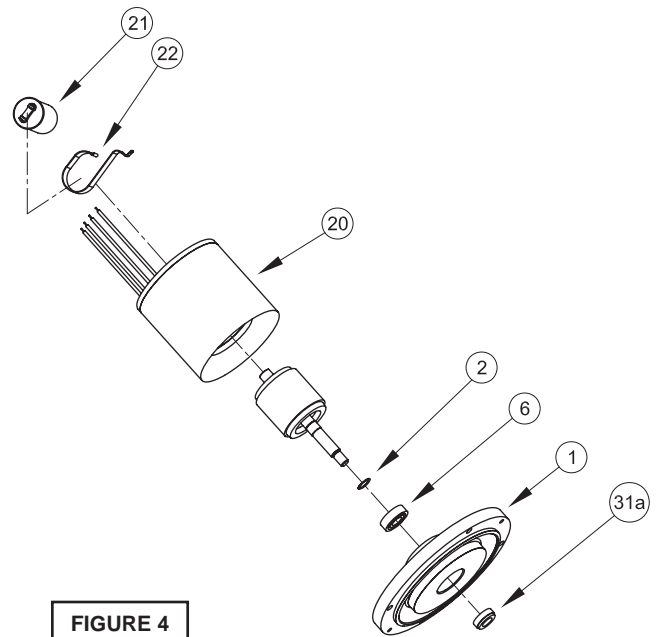
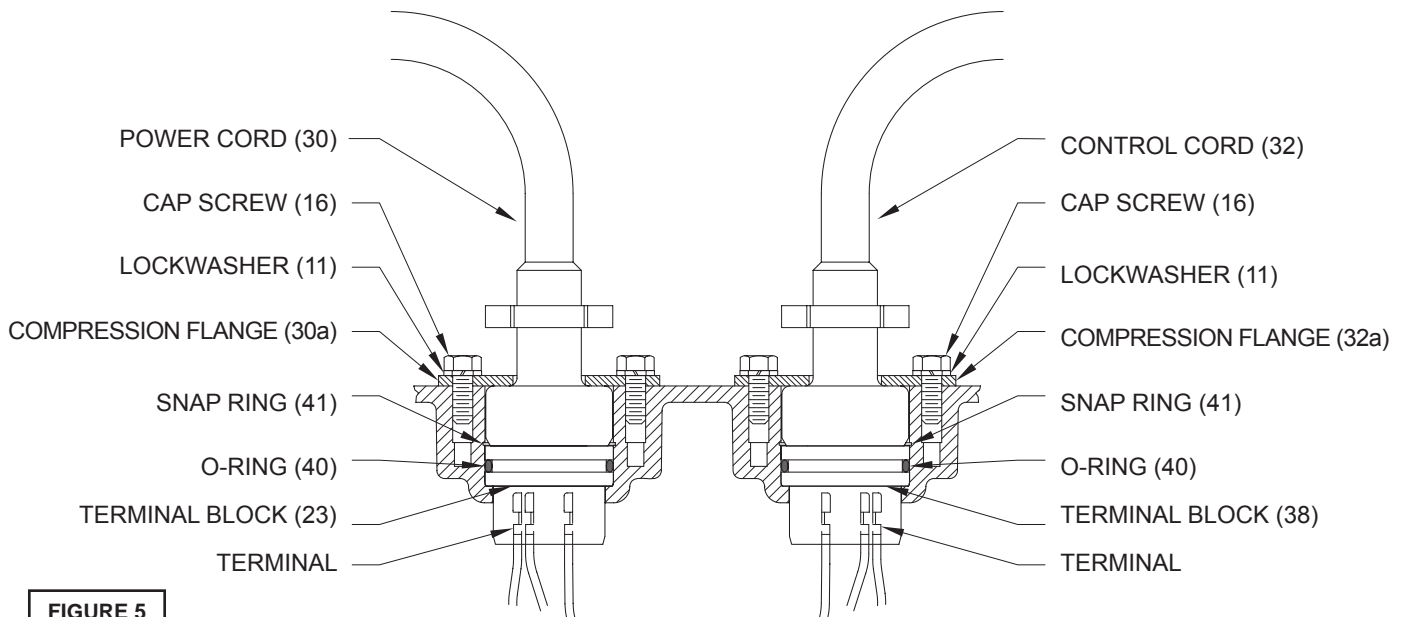

FIGURE 4
FIGURE 5
Position unit upright, using blocks to avoid resting unit on shaft. Unscrew cable hex bolts (16) and remove compression flange (30a) and power cord (30). Remove snap ring (41) with a flat head screwdriver. Pull the terminal block (23) out of the housing (5) using a T-bolt or pair of pliers and a .25-20 screw in the threads of the terminal block (23). Be sure to leave slack on the motor leads connected underneath. Use needle nose pliers to pull each female connector off of the pins on the underside of the terminal block (23) (see Figure 5). The unit voltage should be noted. Repeat cable and terminal block removal procedure for any control cables (32) if equipped. Remove socket head cap screws (9). Vertically lift the motor housing (5) from seal plate (1) by lifting handle (17). Inspect square ring (8) for damage or cuts. Remove the motor bolts and lift motor stator from seal plate (1). Disconnect capacitor leads from capacitor (21, single phase units). Examine bearing (6) and replace if required. If replacement is required, remove bearing (6) from motor shaft using a wheel puller or arbor press, see Figure 4.
Check power cables (30) and control cable (32, if used), for cracks or damage and replace if required (see Figure 5). Make internal wiring connections which are independent of the terminal block as shown in (Figure 10), using connectors (14), terminal (15) and wire assemblies (18) as required. Do not use wire nuts. Slip motor leads and ground wire through fiberglass sleeve. Lower motor housing (5) down onto seal plate (1) while aligning holes and stringing motor leads through the cable entry bore(s). (Slipping cords inside a 1 ft. length of .5" conduit makes this easier). Place socket head cap screws (9) through seal plate (1) into motor housing (5) and torque to 60 in-lbs.
Reconnect motor and optional control leads to the underside of the terminal block(s) (23), (38 optional) as shown in Figure 5. Note that the pins are numbered underneath the terminal block. Place o-ring (40) into groove in terminal block and lubricate with dielectric oil. Press the terminal block (23) (38 optional) into the housing so it seats completely below the snap ring groove. Place snap ring (41) into groove in cable entry bore of housing. Repeat terminal block installation for control cable, if equipped.